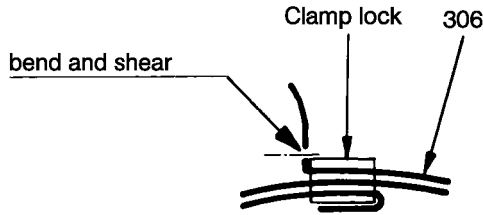

Figure 16: Bending and shearing of the joint clamp.
Note: In case of joint clamps of Hastelloy material, shearing with the clamping tool is not possible. After bending at the joint clamp lock, the joint clamp must be sheared by means of sheet metal shears and the cutting edges deburred (please refer to Figure 16 below).
- When using clamping tool PoK-It II, bend joint clamp (306) after clamping at the joint clamp lock by swinging the clamping tool so that the clamp cannot glide back through the lock. After bending at the joint clamp lock, the joint clamp must be sheared with sheet metal shears and the cutting edges deburred (please refer to Figure 16 below).
ATTENTION Check whether the joint clamp is bent so that it cannot glide back through the joint clamp lock (please refer to Figure 16 above). If this was not achieved, the joint clamp must be removed and replaced by a new one.